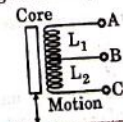

Fig. 5.13.4. Variable inductance transducer.
- An inductance transducer of attachment type is shown in Fig. 5.13.4. The core, made of high permeability steel, is attached to the moving object. The motion changes the length of the core inserted in the coil and thus the inductance of the coil gets changed due to the change of reluctance of the magnetic flux path.